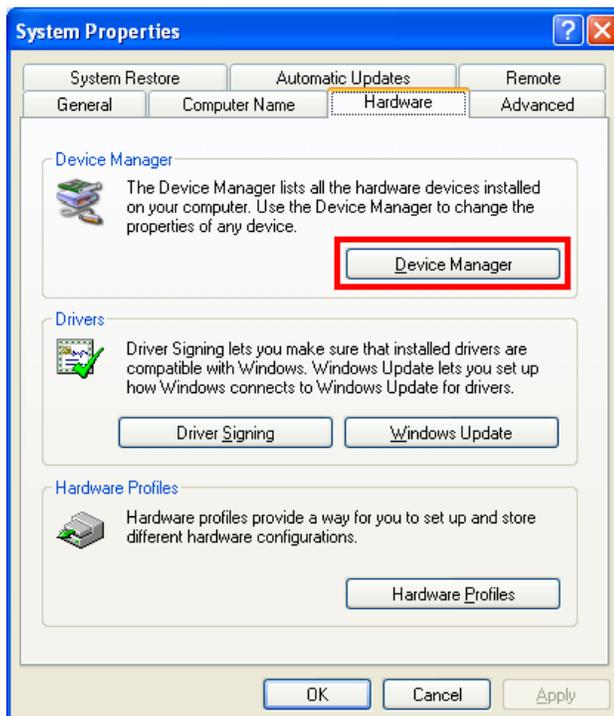

Figure 6-36: Click the Device Manager Tab
Step 3: Click the **Device Manager** tab (Figure 6-36).